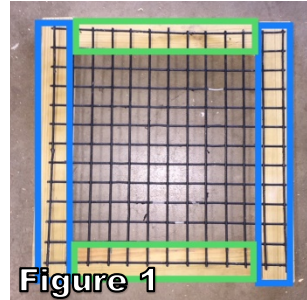

Figure 1
2. Cut four pieces of lumber equal to the length of your mesh plus ~25mm (blue squares in Figure 1). Cut four pieces of lumber equal to the width of your mesh minus the width of the lumber (green squares in Figure 1).